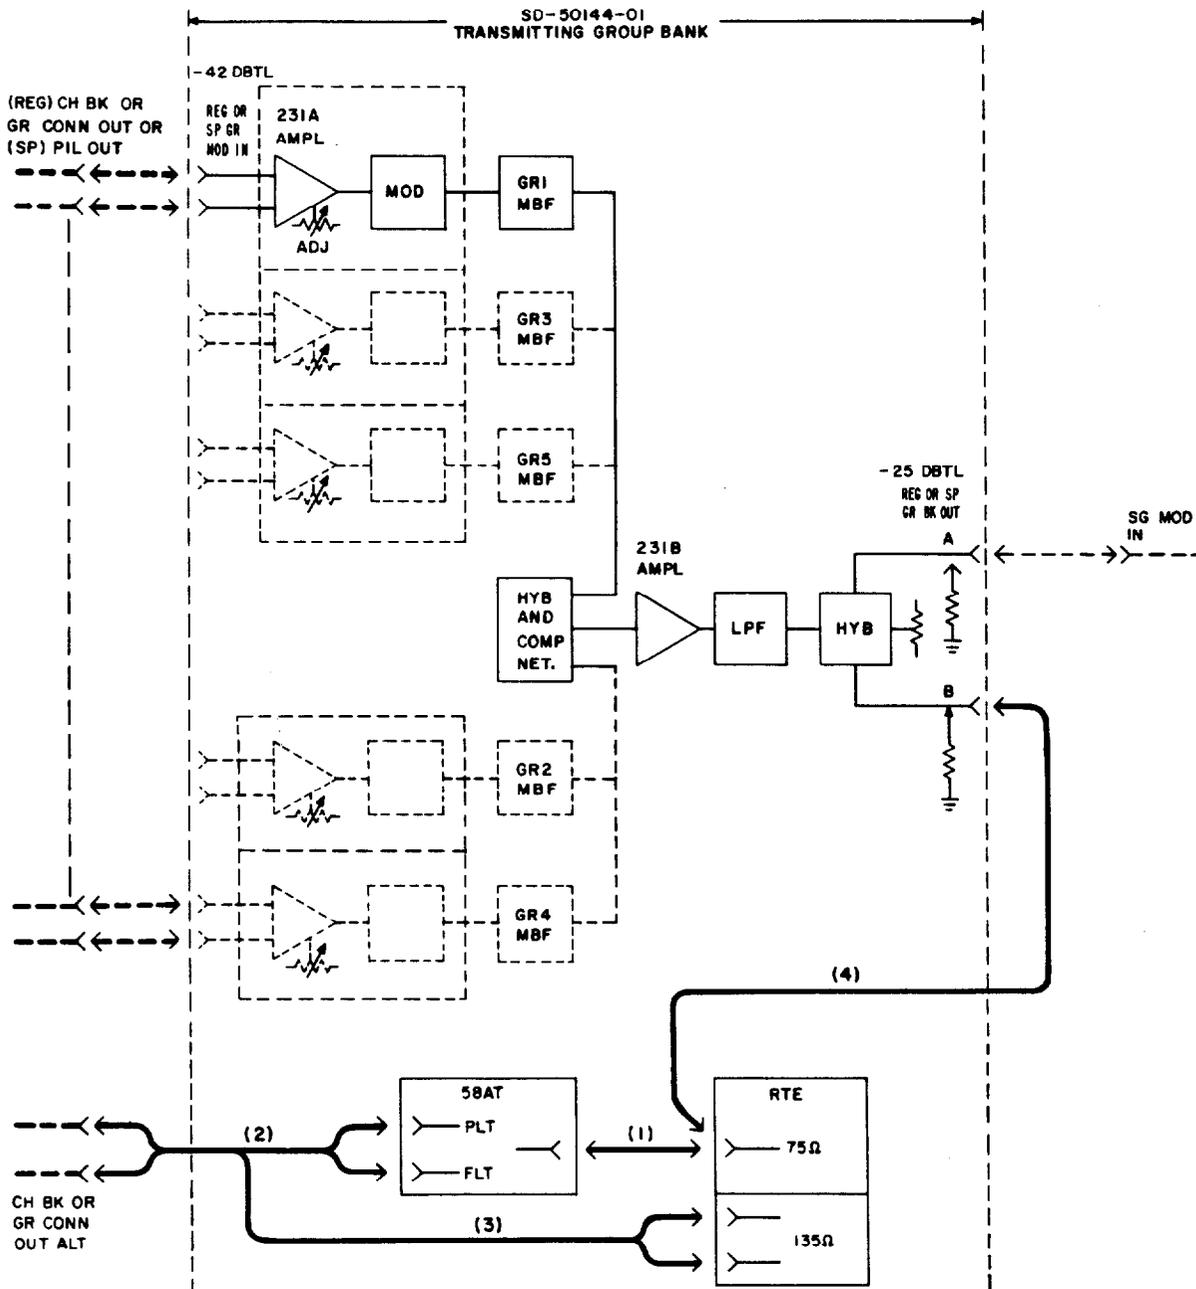

Fig. 8— N3-L Group Modulator In-Service Gain Test
2	Connect the output of the pilot filter set to the RTE [patch (1), Fig. 8].
4	Connect the input of the pilot filter set to the CH BK OUT ALT or GR CONN OUT ALT jack [patch (2), Fig. 8]; measure the power of the 104.08-kHz pilot.
- 7 Connect the RTE to the CH BK OUT ALT or GR CONN OUT ALT jack [patch (3), Fig. 8]; record the RTE indication (combined power of the 104.08-kHz pilot and 104.00-kHz N3 carrier signal).
- 9 Connect the RTE to the GR BK OUT B jack [patch (4), Fig. 8]; tune the RTE to the translated pilot (Table C).